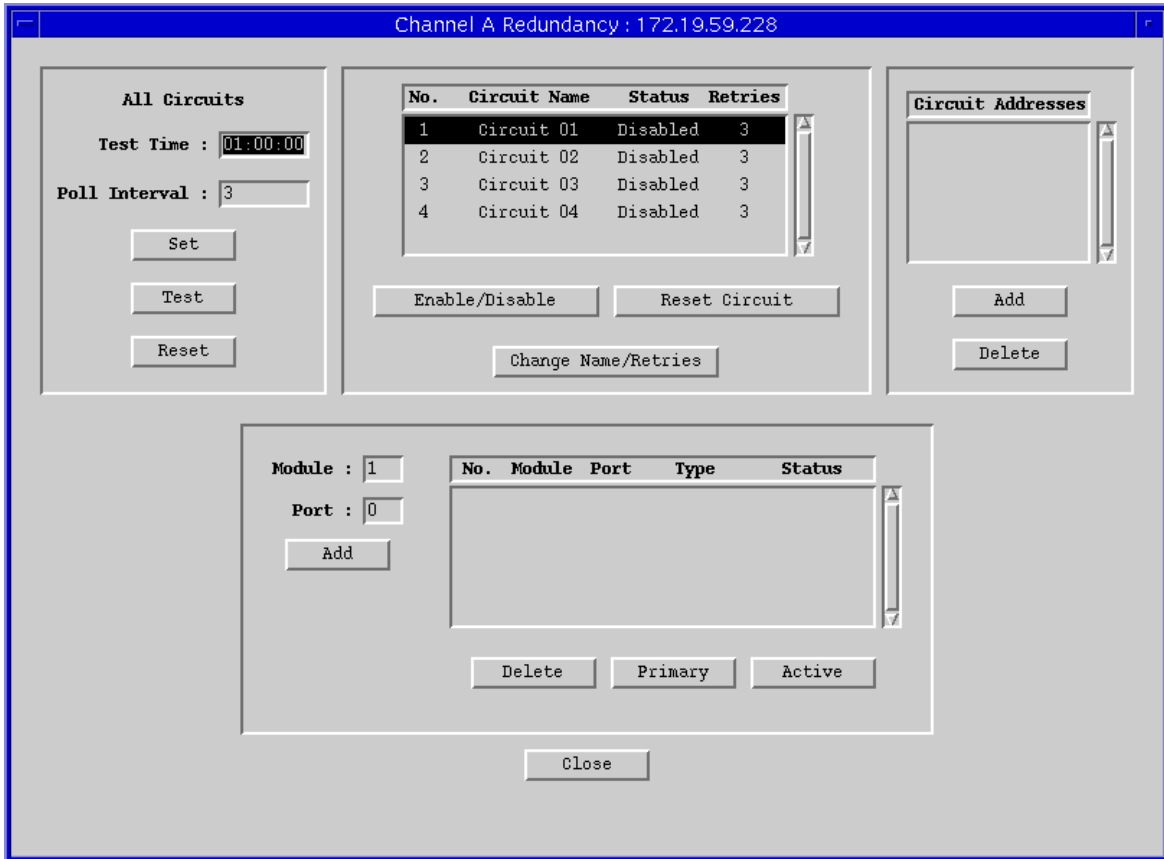

Figure 4-2. The Channel X Redundancy Window
1. In the Repeater Redundancy window, click mouse button 1 on the repeater interface for which you would like to edit or establish a redundant circuit, then click . The Channel X Redundancy window, Figure 4-2, will appear.